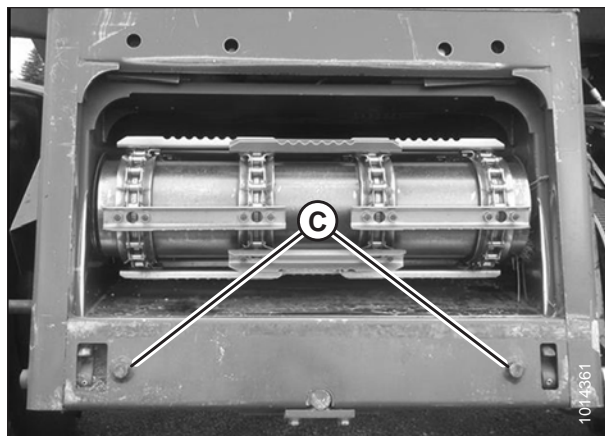

Figure 4.22: Alignment Pins on Feeder House
2. Start engine and slowly approach header until feeder house is directly under adapter top cross member (A) and alignment pins (C) on feeder house (shown in Figure 4.22, page 279) are aligned with holes (B) in adapter frame.